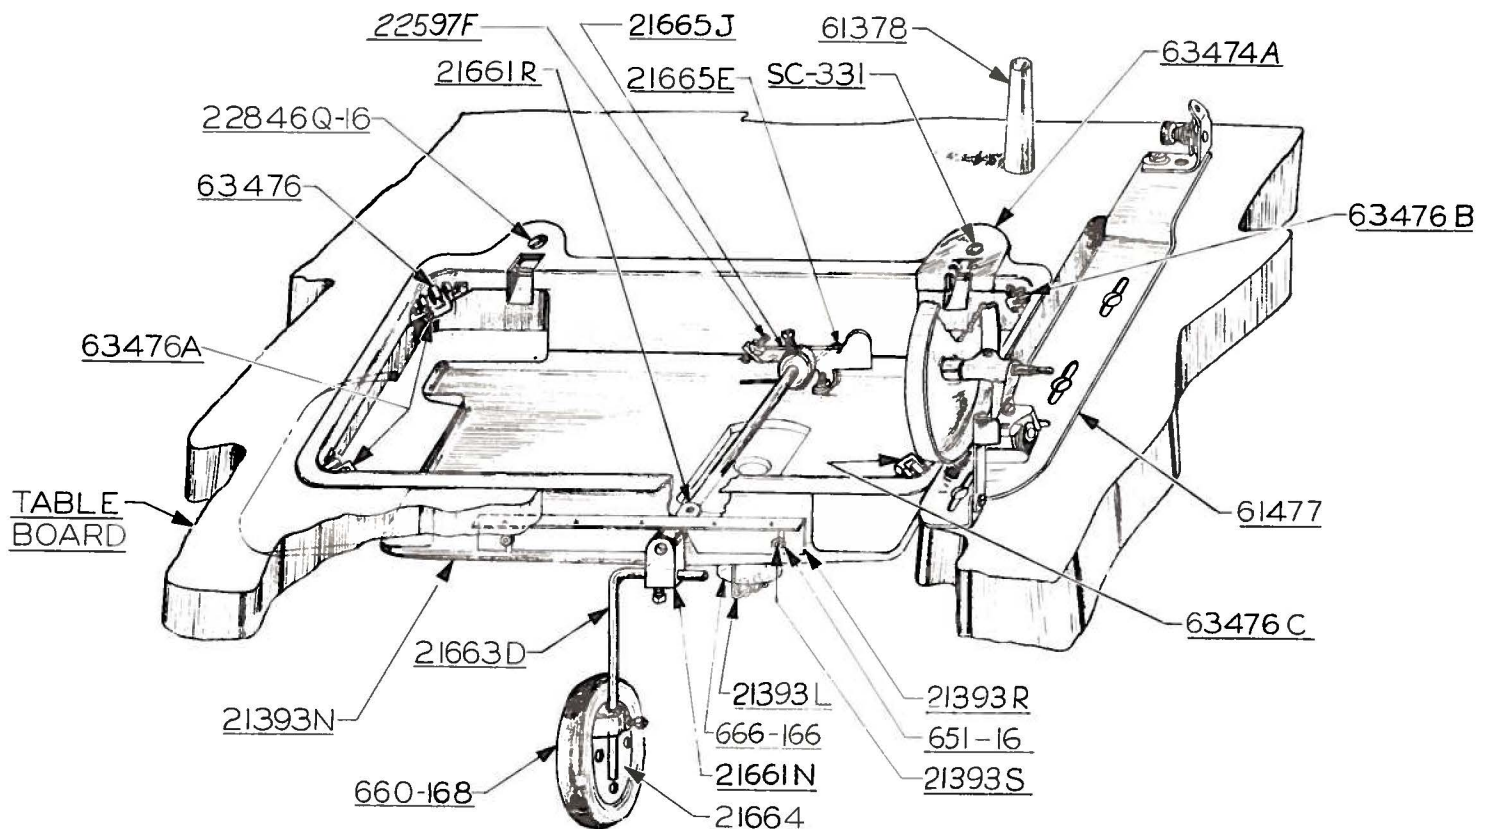
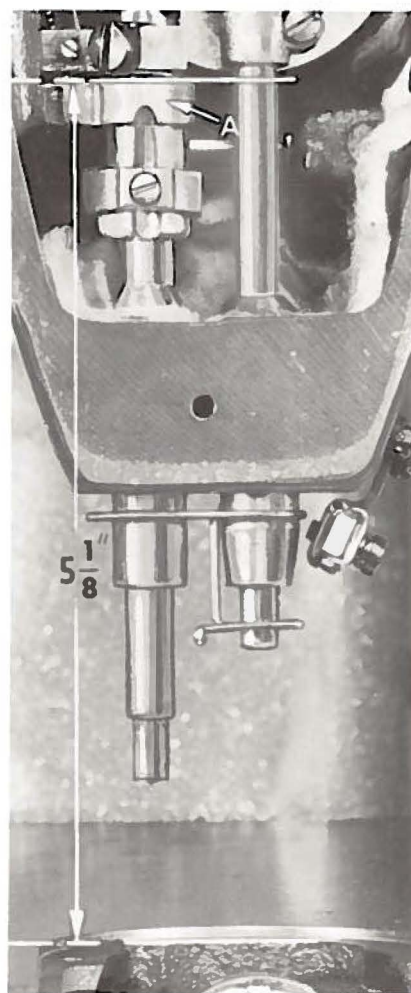

Fig. 1
Fig. 16B
On a suitable tableboard, place machine mounting frame (21393 N) in the machine cut-out with the hinge lugs to the rear (Fig. 1). Insert the countersunk wood screw through left hinge pad and tighten securely. Assemble bed positioning spring (63474 A) over right hinge pad; insert round head wood screw and tighten securely. Assemble the retaining plate (21393 R) to outside front of pan section, as shown, and snug up nuts lightly.
Set the presser bar connection (A, Fig. 16B) so its top surface is $5 \frac{1}{8}$ inch above the throat plate seat (See Fig. 16B). This is accomplished by tipping the machine back against the rest pin, loosening the lock nut and relocating the stop screw in the lifter lever bell crank (61468 F). By turning the stop screw to the right or left, the proper setting for the presser bar connection is accomplished. Retighten the lock nut to lock the stop screw in place. Release pressure on presser spring as required to reset the presser bar guide (F, Fig. 1) allowing a $\frac{1}{16}$ inch space between the guide and presser bar connection, be sure the presser foot is in alignment with the needle before tightening screw (E).